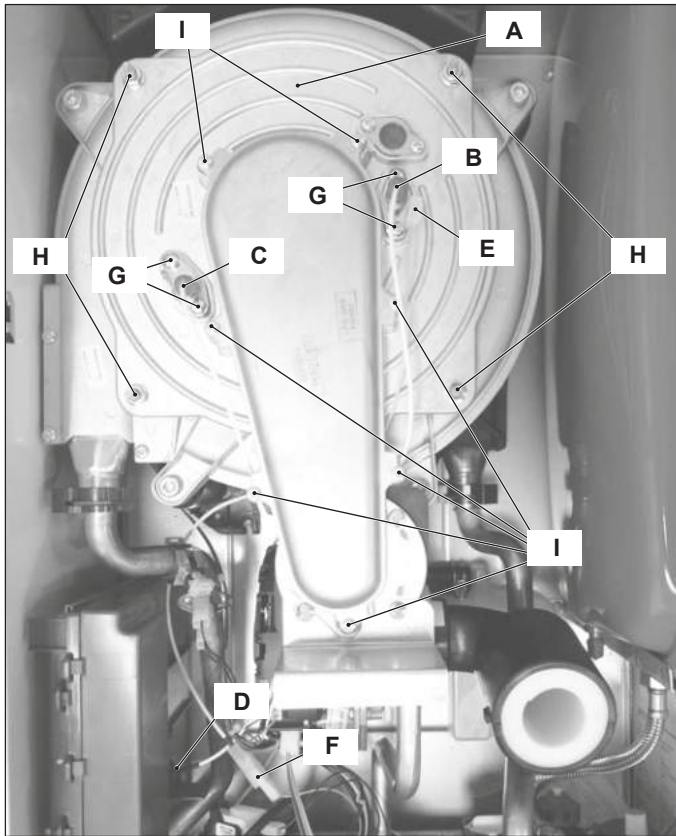
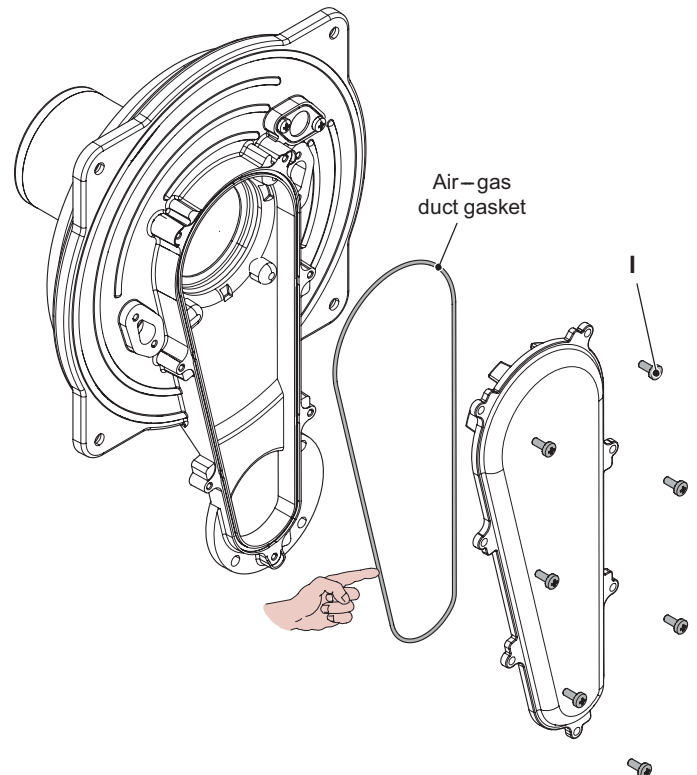
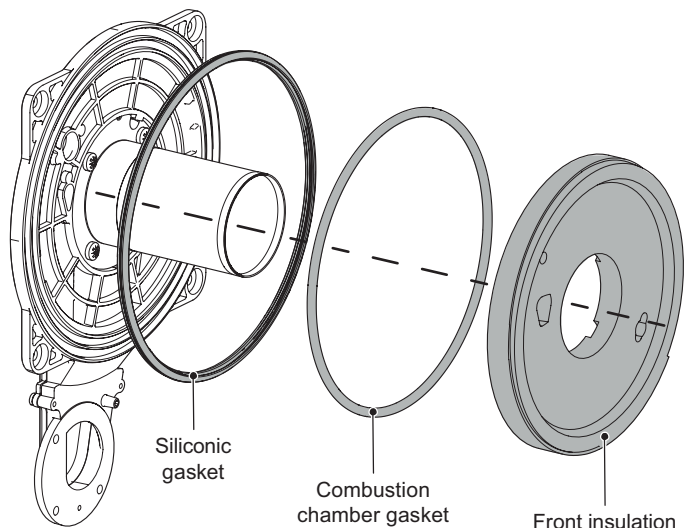

Figure 11.1
Figure 11.3
Figure 11.4
- 2 Disconnect the ignition electrodes connector "D" and the earth wire "E" (Figure 11.1) and disconnect the detection electrode connector "F".
- 1 Unscrew the screws "I" (Figure 11.1 - Figure 11.3) and remove the Air-gas duct lid.
After any periodical servicing or disturbance the combustion chamber silicon seal (Figure 11.4) and the Air-gas duct gasket (Figure 11.3) must be fully inspected and replaced at the discretion of the service engineer.
- 2 Remove the front insulation panel by sliding it forward (Figure 11.4).
- 3 Unscrew the screws "H" (Figure 11.1) and remove the cover of the combustion chamber.